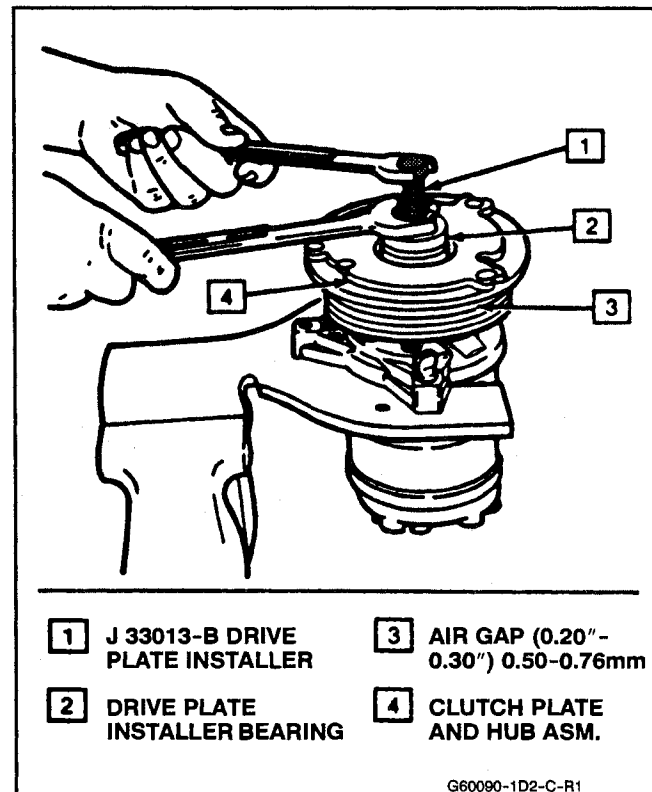

Fig. 5 Installing Clutch Plate & Hub Assembly
4. Remove the forcing tip on J 33013-B clutch plate and hub assembly installer-remover center screw and reverse the body direction on the center screw, as shown in Figure 5.